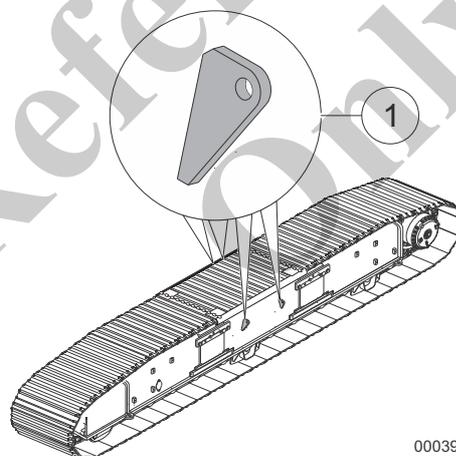

Fig. 131 Lifting points on the track wheel carrier
- 6 Attach the included lifting tackle on the load hook to the lifting points (1) in Fig. 131 of one of the track wheel carriers.